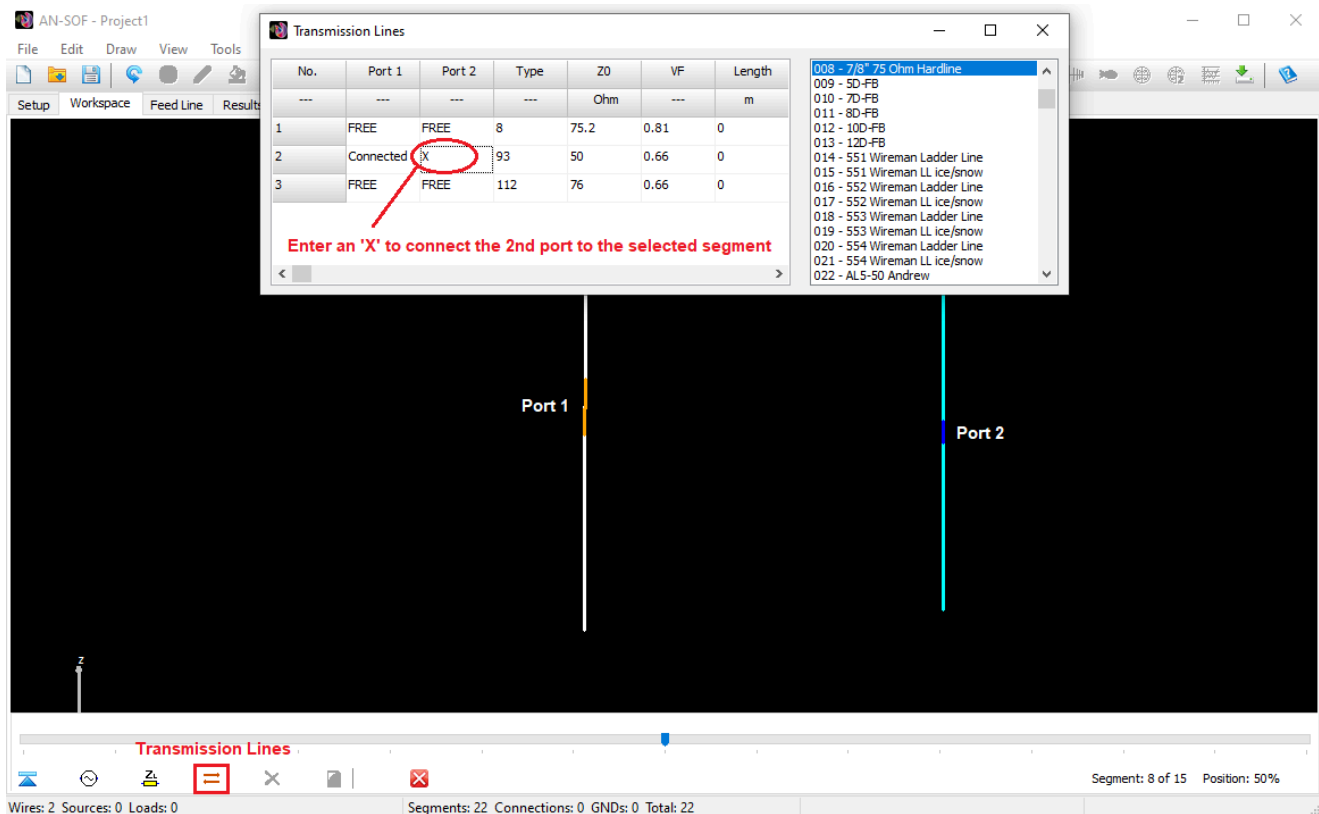
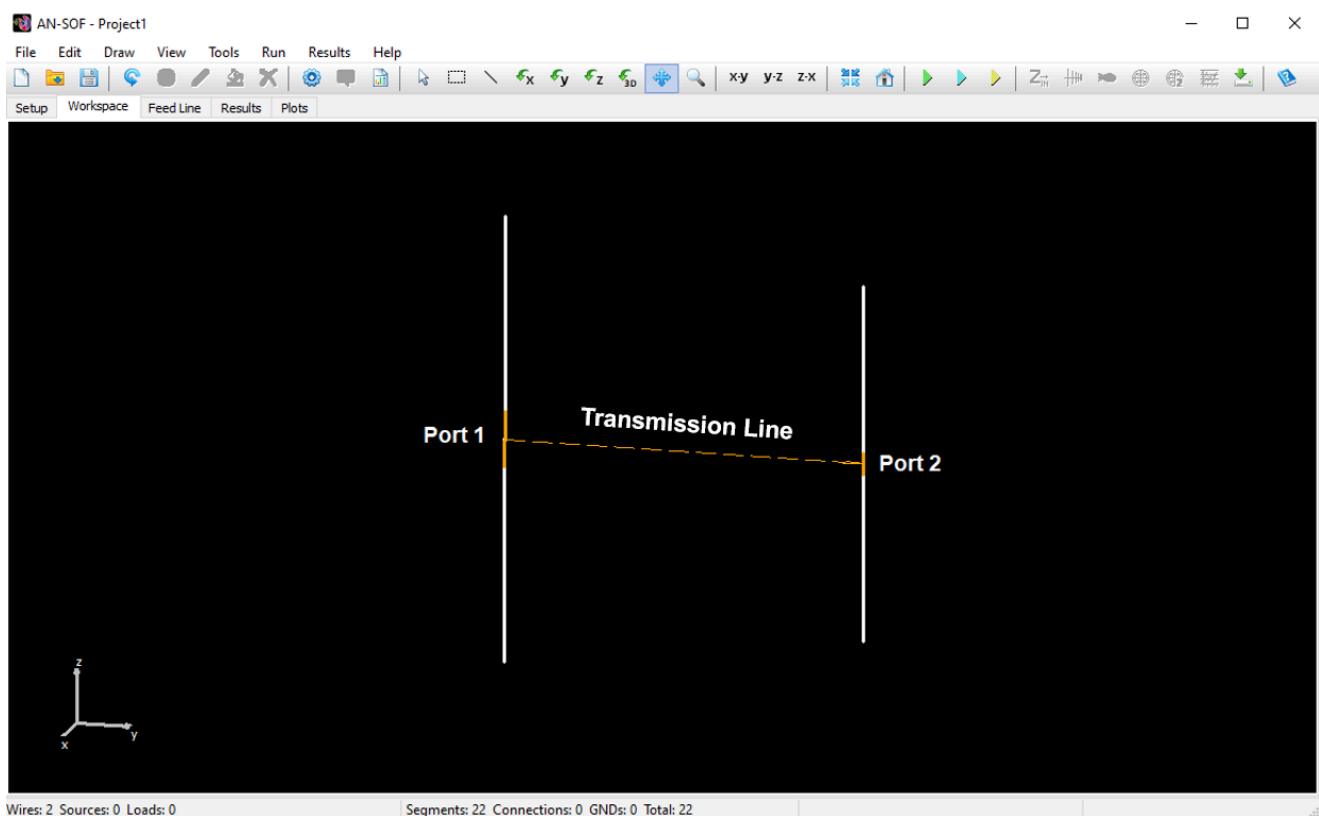

Fig. 3: Select the second segment and enter an 'X' in the ports that you want to connect there.
Fig. 4: Transmission line in the workspace, connecting two segments located on different wires.
If you enlarge or maximize the Transmission Lines window, you will be able to see the columns corresponding to the loss model parameters and shunt admittances, Figs. 4 and 5. Initially, this window only displays cells up to the ‘Length’ column so that the user does not
Fig. 4: Enlarge the Transmission Lines window to view the loss model parameters and shunt admittances. In this example, the K0, K1, K2, and K3 columns of the RLGC model are displayed since a line has been chosen whose attenuation curve is adjusted to this model.
5. Select the second wire and repeat steps 1-4 to connect the second port of the transmission line to another segment, Fig. 3. The transmission lines with both ports connected will be graphically displayed as shown in Fig. 4.
The transmission lines that have both ports connected to segments are displayed as **straight dashed lines in orange color** in the workspace, Fig. 4. An **arrow** will indicate the direction of the line, which goes **from port 1 to 2**. Since the length of a line is another parameter that is entered, such as its characteristic impedance and velocity factor, the length of the line in the workspace may not represent the configured or “real” length of the line.